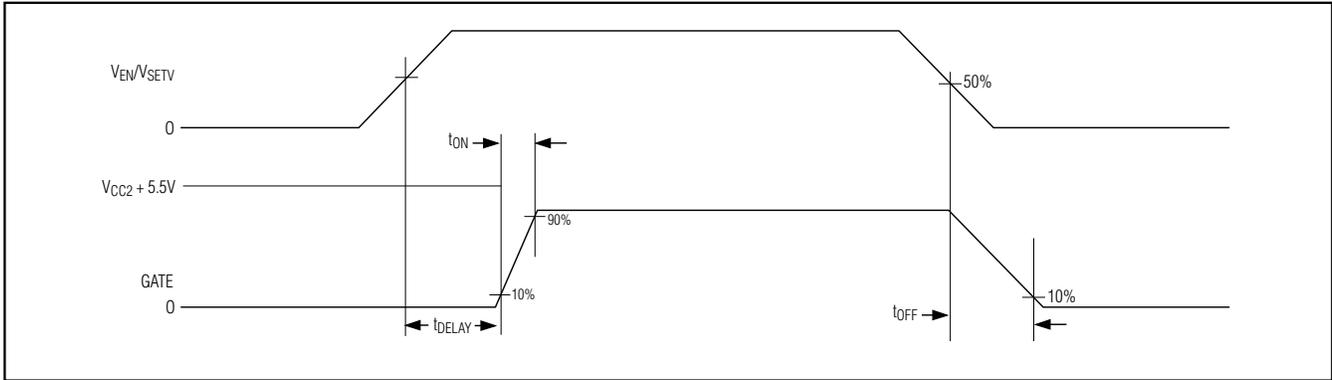

Figure 3. Timing Diagram
The MAX6819 offers a logic-compatible enable input (EN) that allows digital devices to control sequencing. When the TTL/CMOS-compatible EN input is logic-low, the GATE output is low. When the EN input is logic-high (and SETV is above the monitor threshold), the GATE output is enabled after an internally fixed 200ms delay. For a logic-controlled sequencer when voltage monitoring is not desired, connect SETV to V_{CC1} or $V_{CC2} > 0.62V$ (Figure 3).